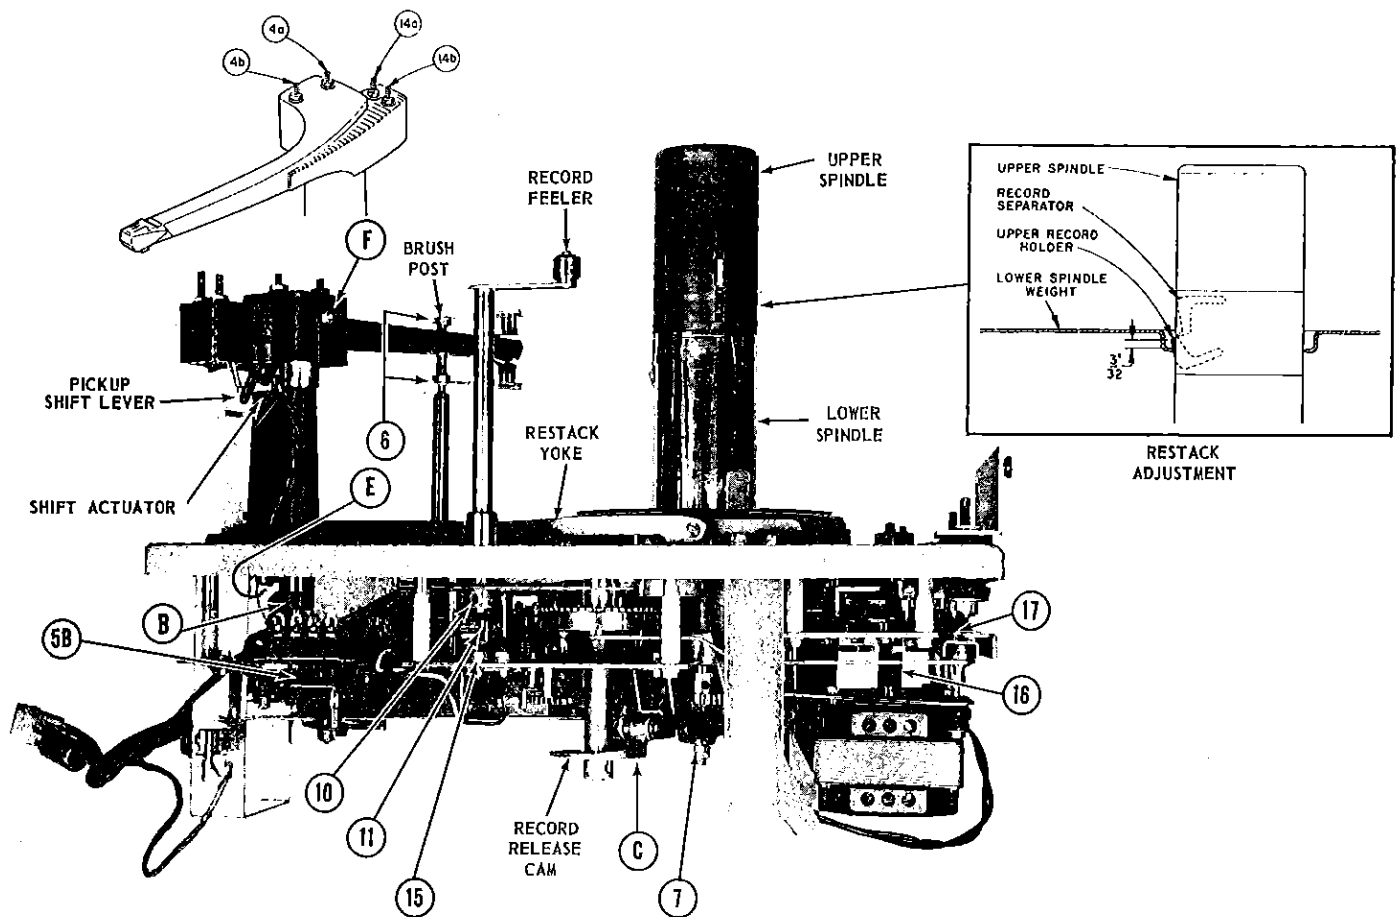
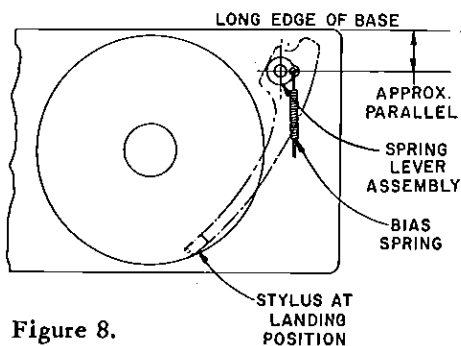

Figure 4.
Figure 8.
- E. Adjust the position of the pickup arm by loosening the set screw, No. 5B, *Figure 4*, and moving the arm to a position where the stylus is approximately half way
No. 6 BRUSH POSITION (Positions the brushes for effective stylus cleaning.) (*Figure 4*.)
No. 7 RECORD RELEASE (Positions the record separators and actuating rod for record-drop timing.) (*Figure 4*.)
- A. Position the mechanism so the record release roller is approximately centered on the first step of the record release cam as shown at C, *Figure 4*.
No. 10 RECORD FEELER (Adjusts position of record feeler roller for starting record restacking.) (Figure 4.)
No. 11 RESTACK RELEASE (Adjusts release of restacking gear for engagement with drive gear.) (Figure 4.)
- A. With only the lower spindle weight in position (no records) adjust the upper limit of the restack yoke so the top of the record weight indentation is $3/32$ inch below the top of the upper record holders as shown in the detail, Figure 4.
No. 14 STYLUS FORCE (Adjusts stylus force.) (Figure 4.)
- A. Screws 14a and 14b, Figure 4, control stylus force. 14a changes both the upward and downward force. For this reason, adjustment must be made in the following sequence: (See assembly data F.)
- A. Adjust the position of the motor coupling, No. 16, *Figure 4*, so the end of the coupling clears the motor housing by approximately $1/16$ inch.
No. 17 DRIVE BAR POSITION(Controls drive wheel engagement.) (*Figures 4 and 5*).
A. The pickup shaft collar, B, *Figure 4*, should be positioned vertically on the pickup shaft so there is .003 inch to .007 inch vertical free movement of the shaft.
D. The pickup bias spring lever, *Figure 8* and 5B, *Figure 4*, should be positioned on the pickup arm shaft so the spring lever is parallel with the long edge of the mechanism base plate when the stylus is at the landing position on a record as shown in *Figure 8*.
E. The pickup shift pinion and rack, E, *Figure 4*, should mesh 1/2 to 1 tooth beyond the point where the shift actuator causes the pickup shift lever to latch with the pickup shift release lever when the mechanism is changing from top to bottom side play and the pickup arm is at its farthest position from the spindle. Check that shift lever is released when going from top to bottom side play and that the actuator moves clear of the shift release lever before pickup arm is released (for playing) when mechanism is going into